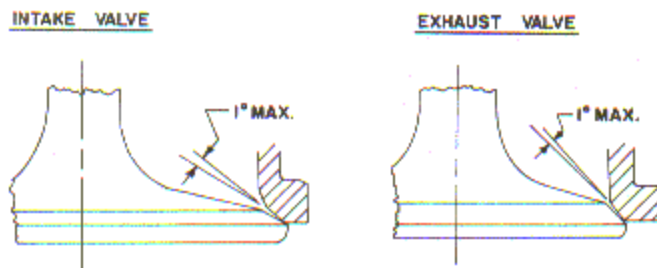

Figure 6-5. Desirable Valve Contact with Seat Face
- 6-48. 1. In figure 6-20 of basic O-540 overhaul manual substitute dimensions 2.344/2.334 for dimensions 2.155/2.145 for intake valve seat. Figure 6-5.
2. In figure 6-20 of basic O-540 overhaul manual substitute dimensions 1.826/1.816 for dimensions 1.750/1.740 for exhaust valve seat. Figure 6-5.